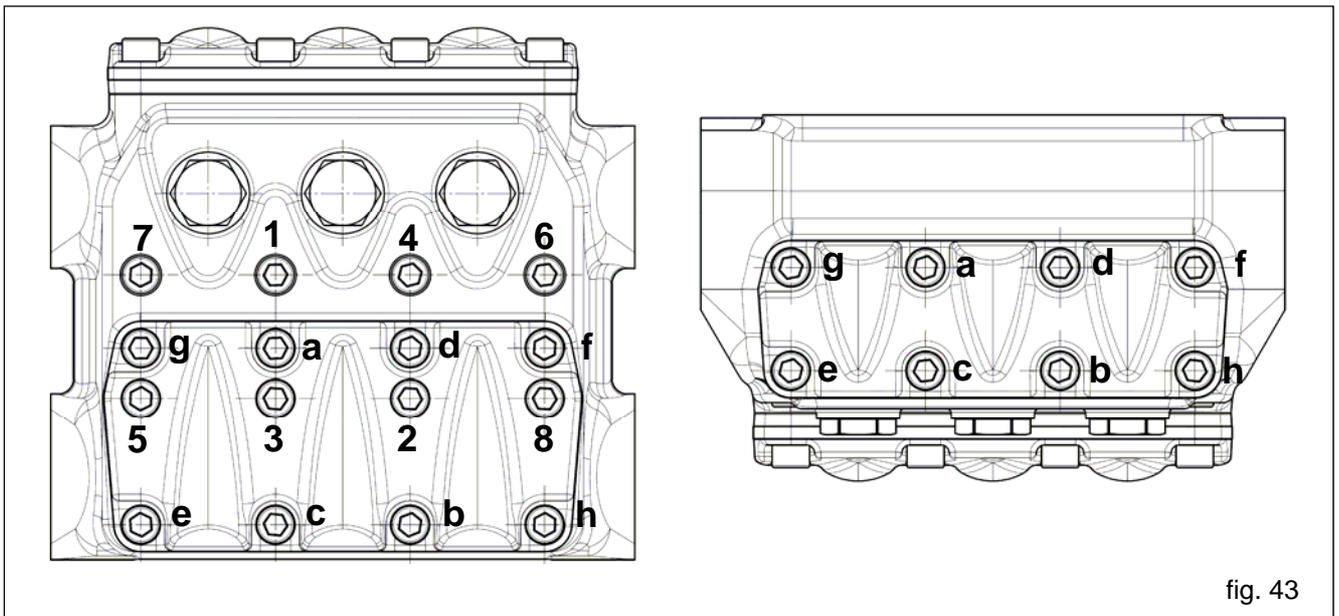

fig. 43
*** The valve cover fastening screws, exploded view position 45, must be tightened with a torque wrench, lubricating the threaded stem and respecting the order indicated in the scheme in fig. 43.